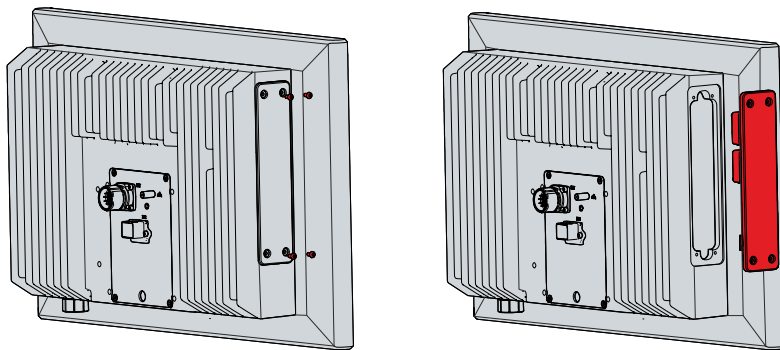

Fig. 42: CP32xx-1600\_exchange fan cartridge
1. Pull the hard disk out of the PC (see Fig. 42).